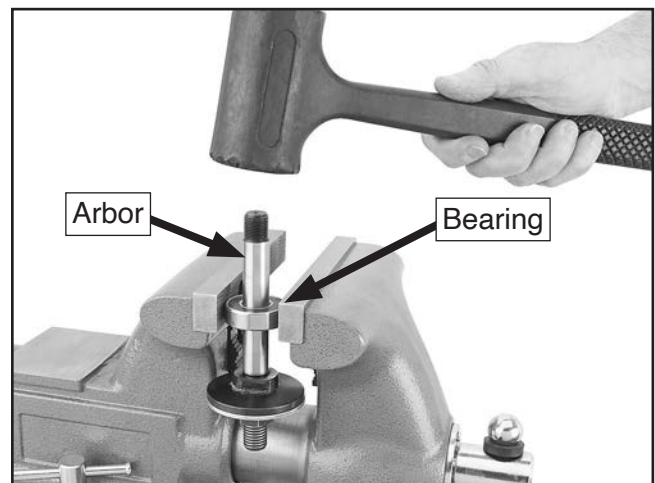

Figure 137. Removing arbor bearing.
18. Place arbor in a vise, as shown in **Figure 137**, with vise teeth clamping bearing, then use a soft rubber hammer to force arbor out of bearing.